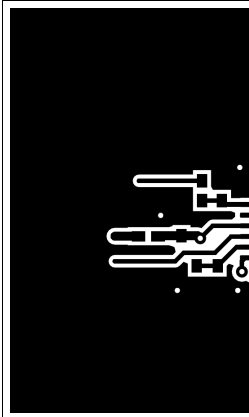
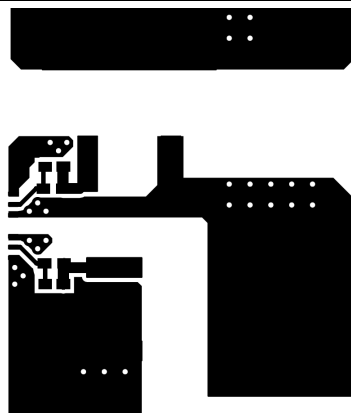

Figure 44. Top Layer Traces and Copper
Figure 45. Bottom Layer Traces and Copper
- Increasing the PCB copper connecting to VDDA, VDDB, VSSA and VSSB pins is recommended, with priority on maximizing the connection to VSSA and VSSB (see Figure 44 and Figure 45). However, high voltage PCB considerations mentioned above must be maintained.